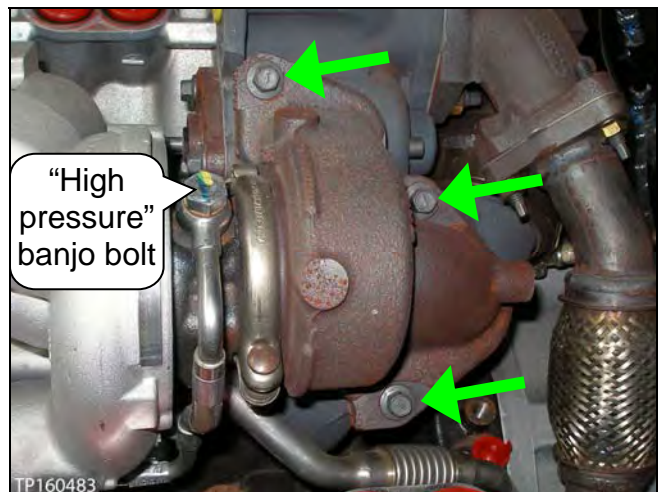

Figure 64
9. Torque the three (3) bolts shown in Figure 64.
10. Torque the banjo bolts (see Figure 64 and 65).